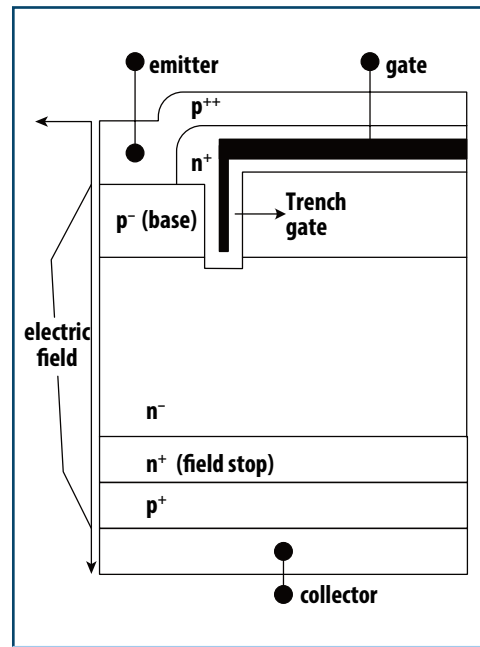

Figure 9. | Diagram of the Formation of the Trench Gate and Field-Stop Layer in the IGBT Die
When evaluating IGBTs for a given design, a field stop (FS) IGBT provides lower saturation voltage drop $V_{ce(sat)}$ and lower switching losses, as evidenced by the very low gate charge Q_g , versus the conventional non-punch-through (NPT) IGBT. The trench gate is a new arrangement of the gate electrode, extending it vertically into the substrate as illustrated in Figure 9 instead of forming it flat on the surface. This allows each single cell of the IGBT structure to be narrower. The result is a different turn-'OFF' behavior with the internal current-carrying mechanism extinguishing faster with less charge required to be extracted. This effect is maximized at high supply voltages near the maximum limit of V_{ces} . The addition of the field stop layer prevents a saturated current conduction, and therefore, contributes to faster turn-'OFF' by suppressing the tail current.